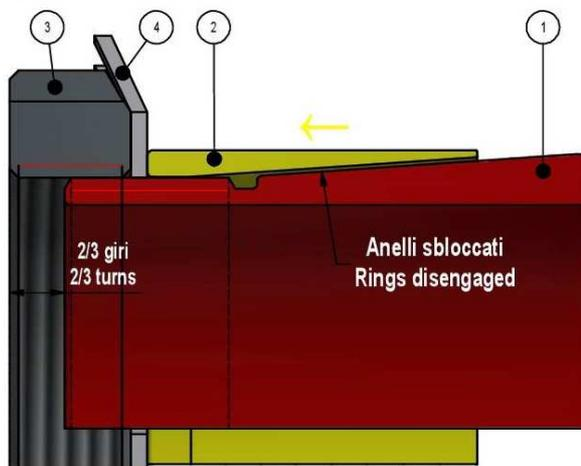

Fig. 3. Disengagement of locking rings.
**For ease of installation, locking rings shall be disengaged** (fig. 3). Loosen the nut by two/three turns and push the outer ring towards the nut.